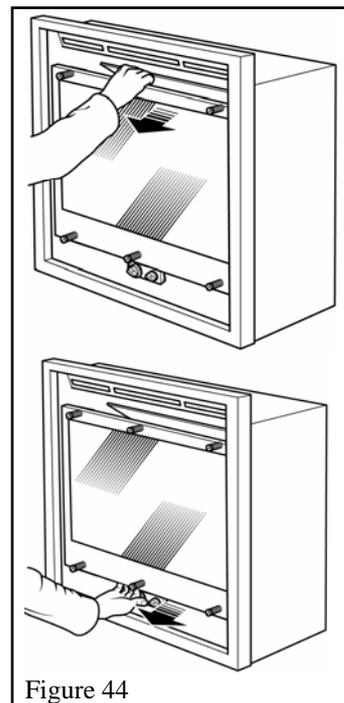

Figure 44
- Pull the top of the window forward and release to check that the it opens slightly and returns in the event of a delayed ignition explosion. See figure 44.
- Similarly check the bottom of the window by pulling it forward and releasing. See figure 44.